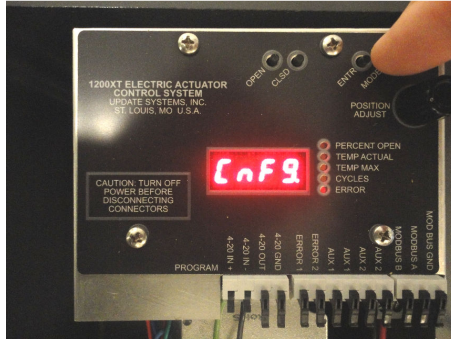

Figure 26
Step 1: To enter Configuration [CnFg] mode, toggle the **MODE** button until [CnFg.] is displayed (Figure 26), then press the **ENTR** button.